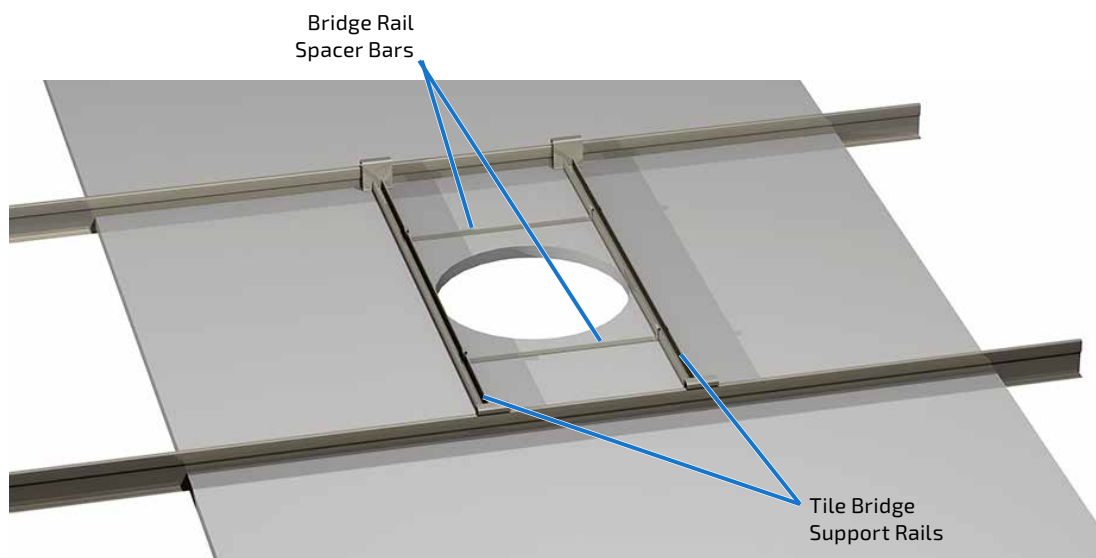

Figure 5. Tile bridge and spacer rail layout
2. Insert the Tile Bridge Support Rails through the can cutout and position them across the rails on either side of the cutout, approximately as far apart as the Bridge Rail Spacer Bars. Then insert the pair of spacer bars and clip them over the tile bridge support rails as shown in Figure 5.